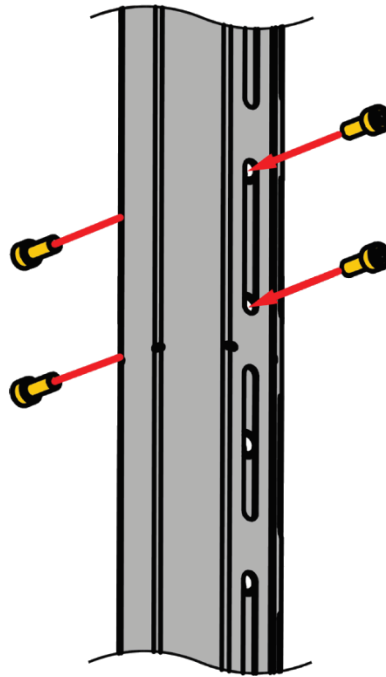

Figure 90: Step 9
Step 9: Tighten the lower tube ③ to the upper tube ② by using the bolts ⑧ (4 pcs.) at the desired height/drop, as shown in **Figure 90**.